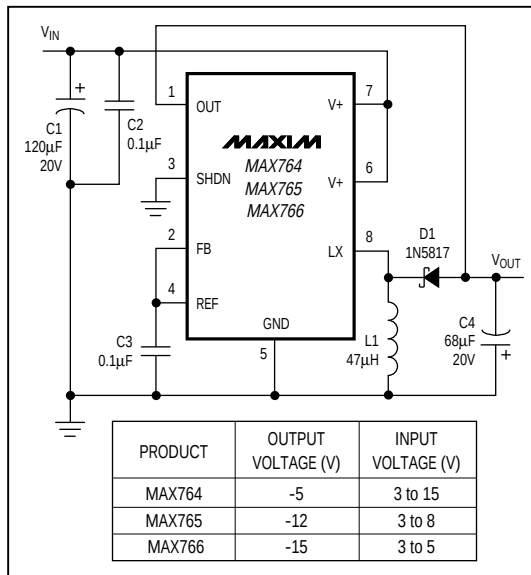

Figure 2. Fixed Output Voltage Operation
Note 2: Circuit of Figure 2.
CIRCUIT OF FIGURE 2, V₊ = 5V, I_{LOAD} = 100mA, V_{OUT} = -5V
CIRCUIT OF FIGURE 2, V₊ = 5V, V_{OUT} = -5V
CIRCUIT OF FIGURE 2, V_{OUT} = -5V, I_{LOAD} = 100mA
CIRCUIT OF FIGURE 2, V₊ = 5V, V_{OUT} = -5V, I_{LOAD} = 140mA
CIRCUIT OF FIGURE 2, V₊ = 5V, V_{OUT} = -5V, I_{LOAD} = 80mA
CIRCUIT OF FIGURE 2, V₊ = 5V, V_{OUT} = -5V, I_{LOAD} = 240mA
- Figures 2 and 3 show the standard application circuits for these devices. In these configurations, the IC is powered from the total differential voltage between the input (V+) and output (VOUT). The principal benefit of this arrangement is that it applies the largest available signal to the gate of the internal P-channel power MOSFET. This increased gate drive lowers switch on-resistance and increases DC-DC converter efficiency.